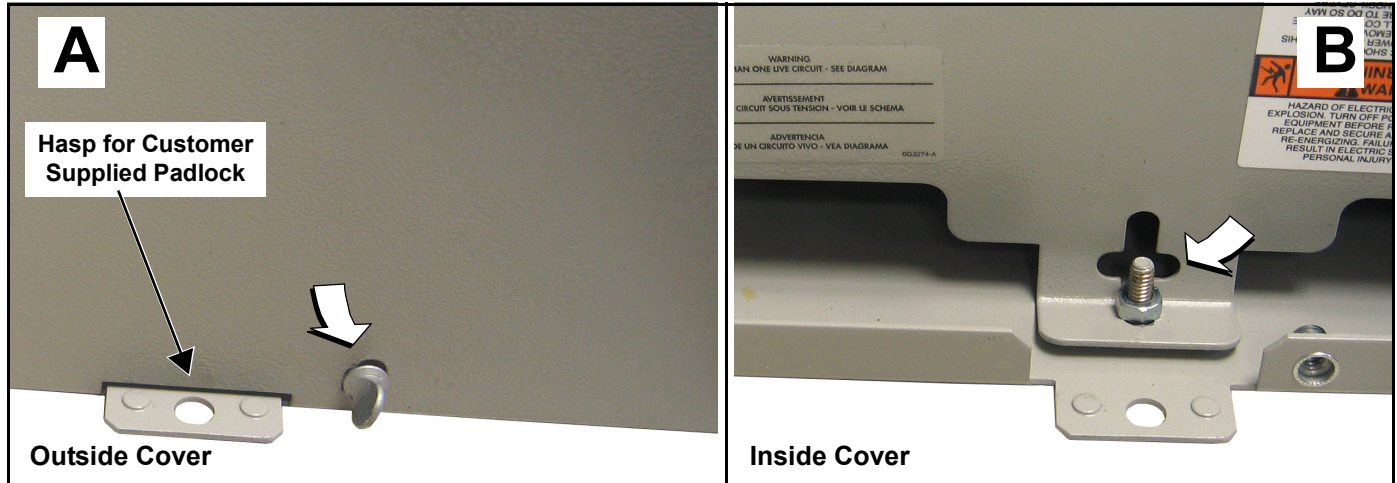

Figure 3-1. Remove Transfer Switch Covers
1. Remove thumbscrew and remove outside cover from enclosure. See A of Figure 3-1.
2. Remove hex nut from threaded stud at bottom of enclosure and remove inside cover. See B of Figure 3-1.